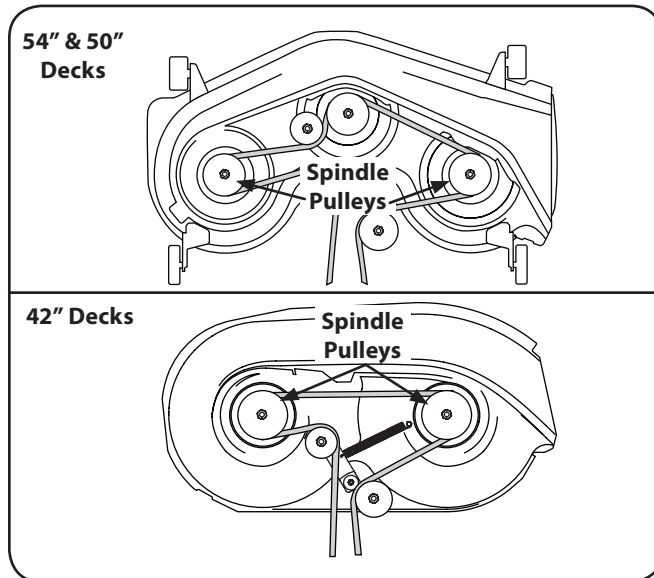

Figure 7-8
2. Remove the hex screws securing the belt covers to the deck and remove the belt from the spindle pulleys. Refer to Figure 7-8
3. Install the new belt around the spindle pulleys as shown in Figure 7-8 and reinstall the belt covers.